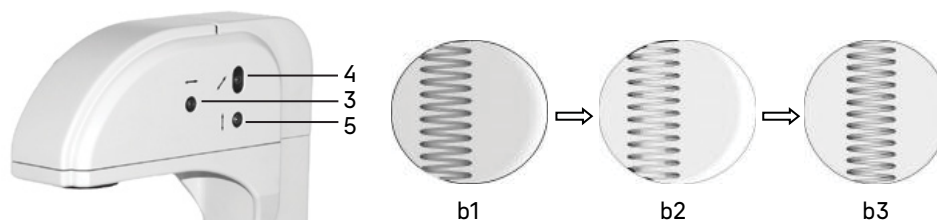

Fig. 11b. Adjusting the image
2. Open the field diaphragm. A brightly illuminated spot will appear on the paper showing the filament as shown in Figure 11b.